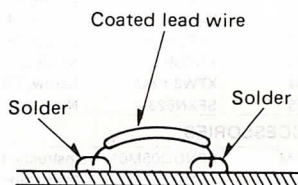

Fig. 26
1. If the chip jumper is removed, connect a coated lead wire to the part. (See Fig. 26).